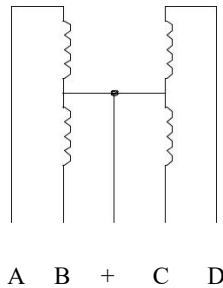
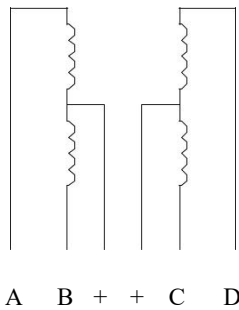

Fig 1. Five-wire stepper motor
Fig 2. Six-wire stepper motor
2. **Unipolar motors.** These have two center-tapped coils which are treated as four coils. These motors can have **five, six or eight** wires. Five-wire motors have the two center-taps commoned internally and brought out as one wire (Fig 1). Six-wire motors bring out each center-tap separately. The two center-taps need to be commoned externally (Fig 2). Eight-wire motors bring out both ends of each coil. The four “center-taps” are joined externally to form one wire. In each case the center-tap(s) are connected to a positive motor power supply. Unipolar motors may be connect as bipolar ones by not using the ‘+’ wires.